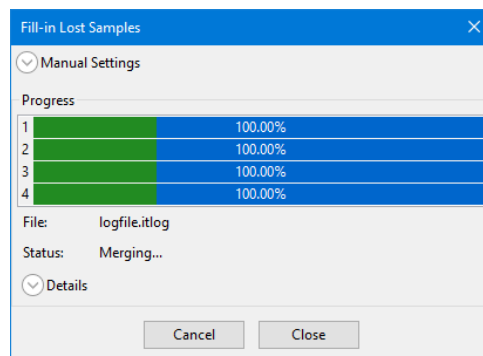

Figure 22: Merging
3. In the third stage, the received data is merged into the *itlog* file (Figure 22). The progress bars are filled with green bars to show the progress. If there is still some missing data, sections in a progress bar are made red and messages with information about the missing sections are added to the notification area. A manual restart could fill in the remaining missing samples (see Section 4.5.2).